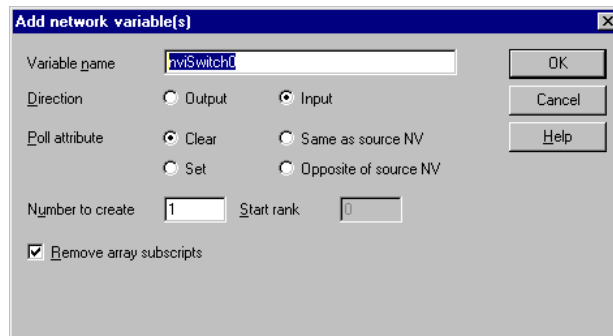

Figure 83: Add an input network variable to the L-Proxy virtual interface Interface 1.
2. This operation opens the connection window in working view (right view) and a new window pops up (see Figure 83).